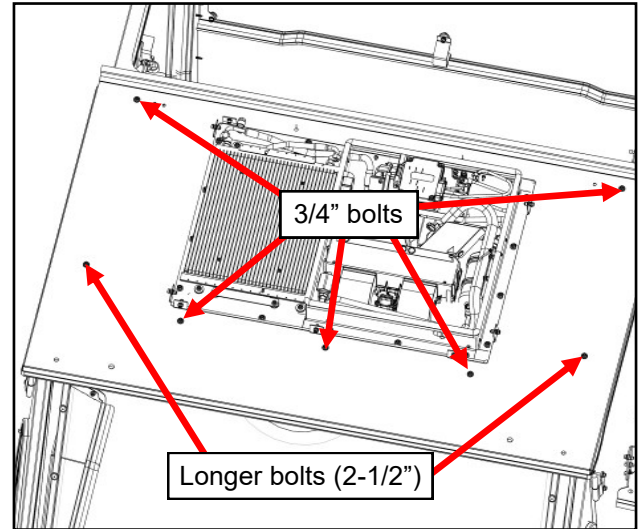

Fig. 12.2 Front Canopy
**12.2** Per figure 12.2, place the front canopy on top of the cab and align to the holes in the headers and windshield support. Insert the longer 1/4-20 bolts with plastic washers through the outer, front holes in the canopy, through the holes in the ROPS and through the lower flange of the headers and secure with nuts. Insert shorter 1/4-20 bolts with plastic washers through the remaining holes through the canopy as shown and secure with nuts.